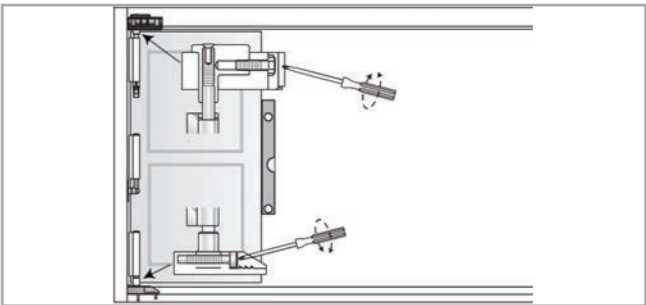

Figure 31: Horizontal adjustment roller locations
Step 1 - With the doors open, using a pozi screwdriver adjust the horizontal screws found in the top and bottom rollers (as shown in Figure 31).